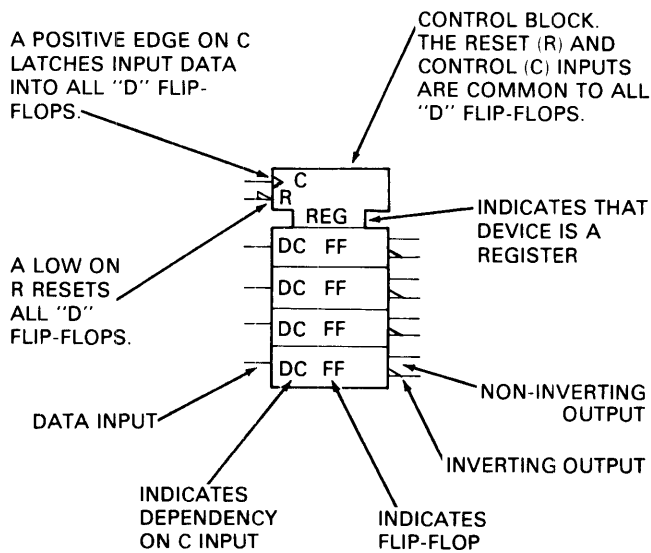

Figure 8-2. Symbol for a Quad D Flip-Flop
**8-9. LOGIC SYMBOLOGY.** This manual uses logic symbols as per American National Standards Institute standard Y32.14-1973. The purpose of these symbols is to graphically represent device functions so that operation can be understood without having to "look up" how a device works. Figures 8-2 and 8-3 show examples of ANSI Y32.14 symbols.